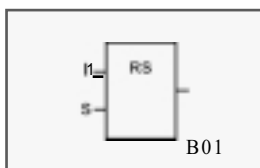

Fig. 4.27
- Then it is necessary to set the parameters, namely to set the values with , . For example, if I1 is to be set up, just press  key when I1 is displayed, as shown in Fig. 4.27 (the variation range of I is I0 ~ I12).